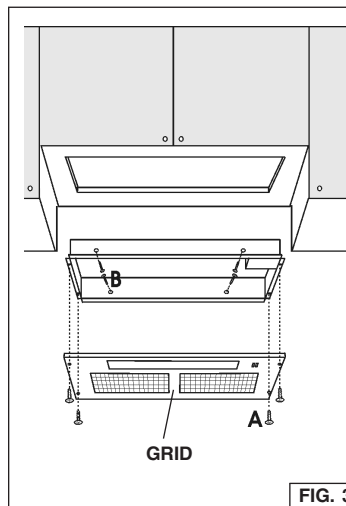
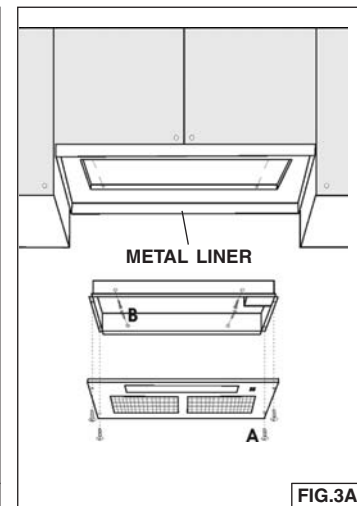

FIG. 3
FIG.3A
2. Take off the (4) "A" screws and remove the metal grid (Fig. 3).
3. **NOTE:** For installations where the Power Pack is less than 30" above cook top, it is recommended that the Power Pack be mounted into a metal liner or non-combustible material. This will allow easier cleaning and provide protection to the cabinetry (Fig.3A).
4. Insert the hood in the cabinet (Fig. 3) or metal liner (Fig. 3A) and secure with the (4) "B" mounting sheet metal screws.
(Fig. 3 - wood bottom installation; recommended thickness 1/2"-3/4").
1. Remove the grid taking off the (4) "A" screws 3.9x6mm (Fig. 3).